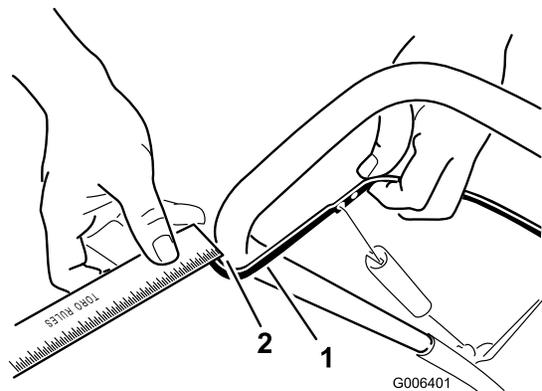

Figure 24
Move the control bar back toward the handle to remove the slack in the control cable (Figure 24).
Note: Ensure that a 2 mm to 3 mm (1/16 inch to 1/8 inch) gap exists between the control bar and the handle (Figure 24).
2. Move the Z-fitting to a higher or lower hole on the adjuster link as needed to obtain the 2 mm to 3 mm (1/16 inch to 1/8 inch) gap between the control bar and the handle (Figure 24).